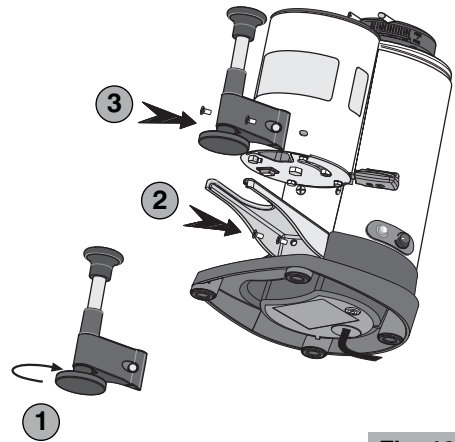

Fig. 10
- 2** Choose the suitable press diameter (53, 54,5 or 57,5 mm) for the filter-holder of your coffee machine and fix it to the rod of the telescopic press (1, Fig. 10).
- 3** Position the long support fork supplied with the telescopic press and fasten it using the same retaining screws of the short fork removed previously (2, Fig. 10).
- 4** Position the telescopic press and fasten it with the screws provided (3, Fig. 10).